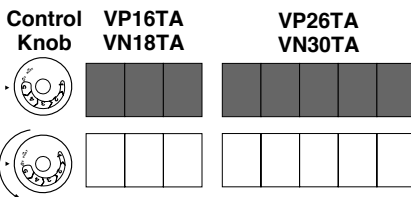

Figure 25 - Burner Patterns
8. Turn thermostat control knob counter-clockwise ↺ to the desired heating level. For models, VP16TA, VN18TA, VP26TA, and VN30TA, the main burner should light. Set control knob to any heat level between 1 and 5 (see Figure 25). For infrastat models, the plaque directly above the pilot should light.